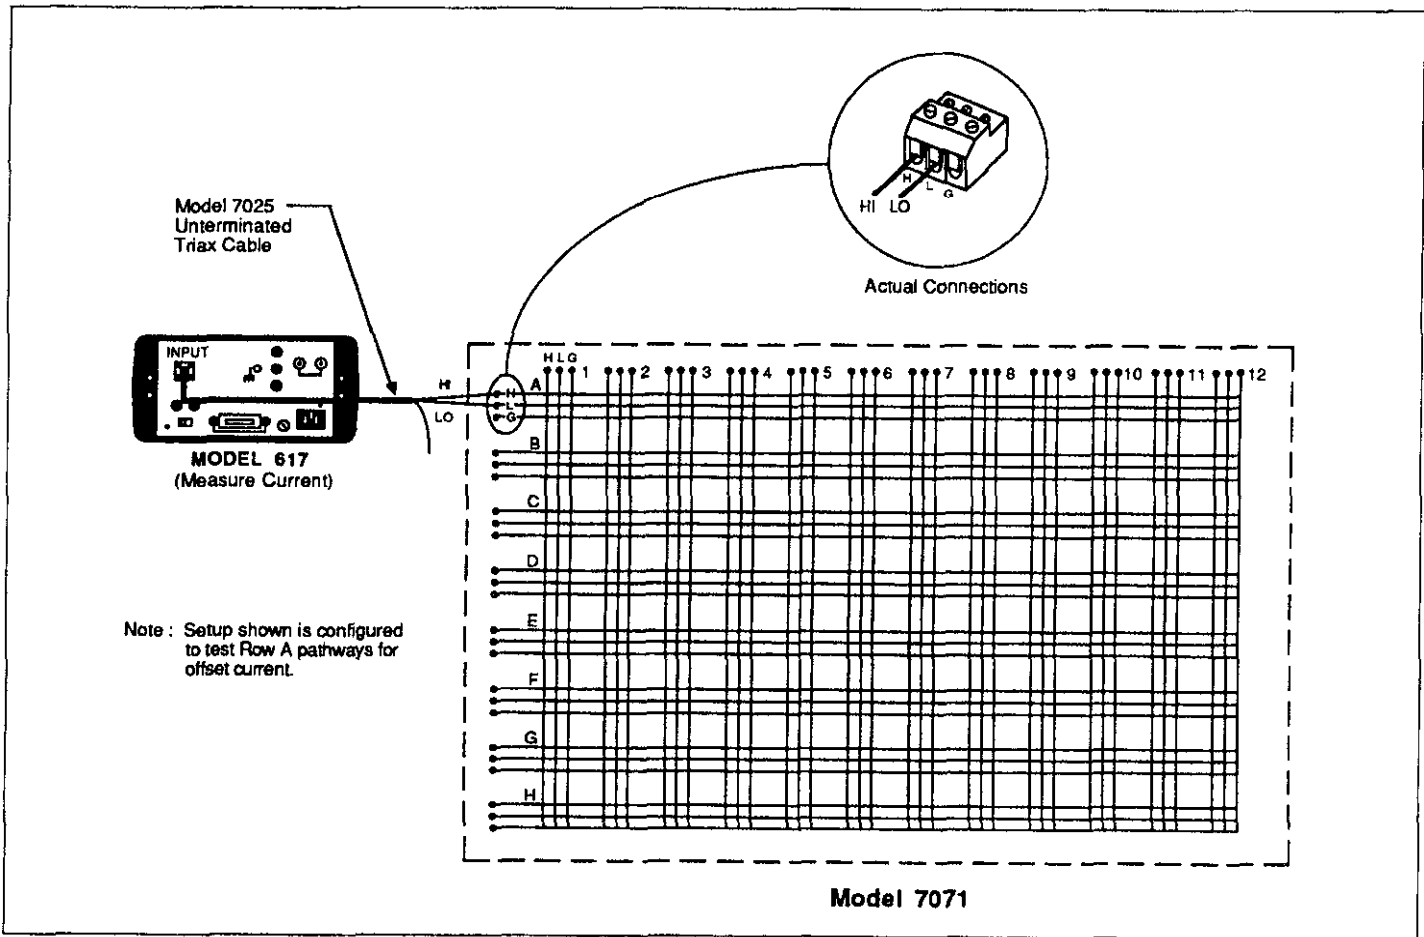

Figure 4-3. Differential Offset Current Testing
2. Connect the Model 617 to a quick-disconnect terminal block as shown in Figure 4-3. Do not connect the terminal block to the matrix card at this time.